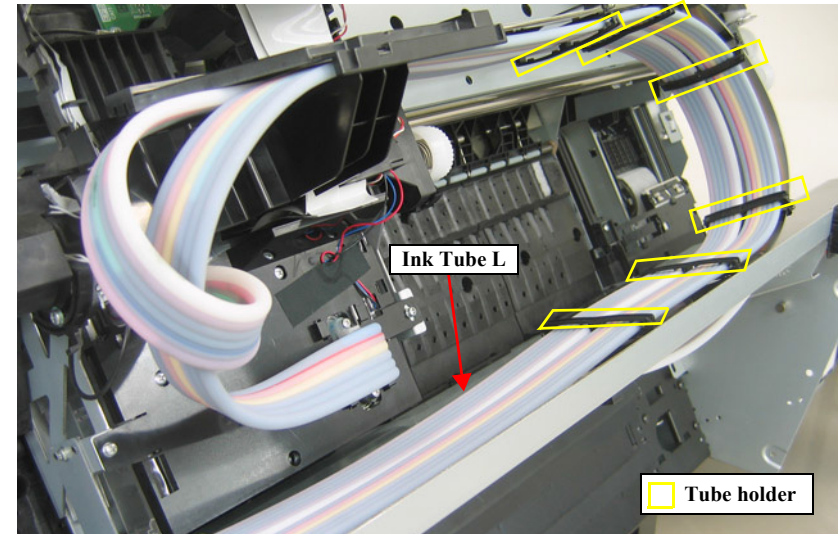

Figure 4-162. Releasing the Ink Tube L (1)
11. Disengage the nine tube holders, and release the Ink Tube L. *See Figure 4-162, 4-163.*